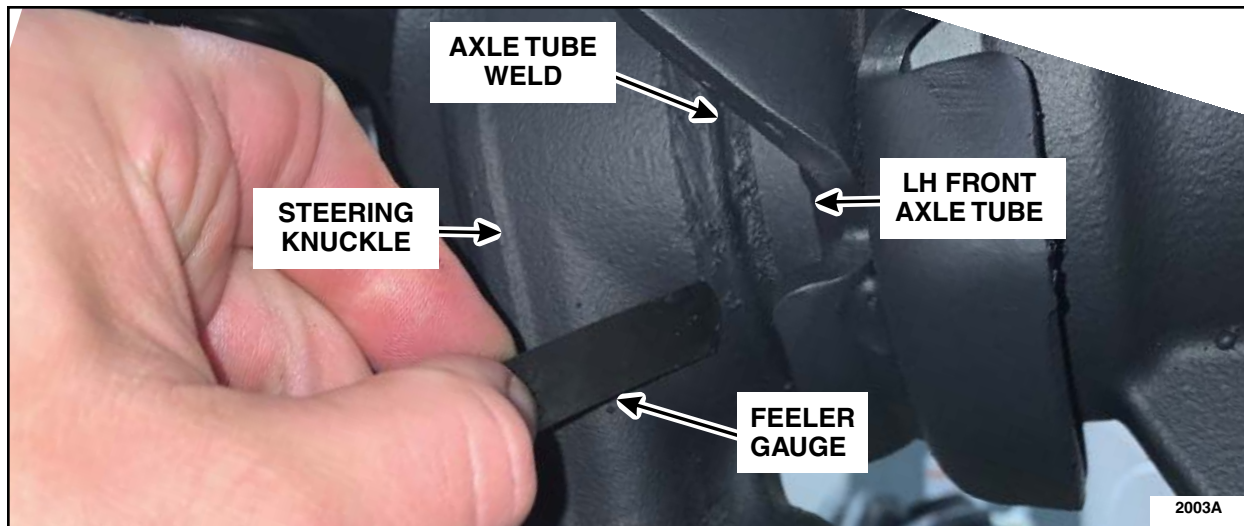

FIGURE 1
3. Inspect the LH front axle tube to steering knuckle weld. Can you fit a 0.010" feeler gauge between any portion of the weld and the steering knuckle, inspecting in four locations around the axle weld? See Figures 1, 2 and 3.